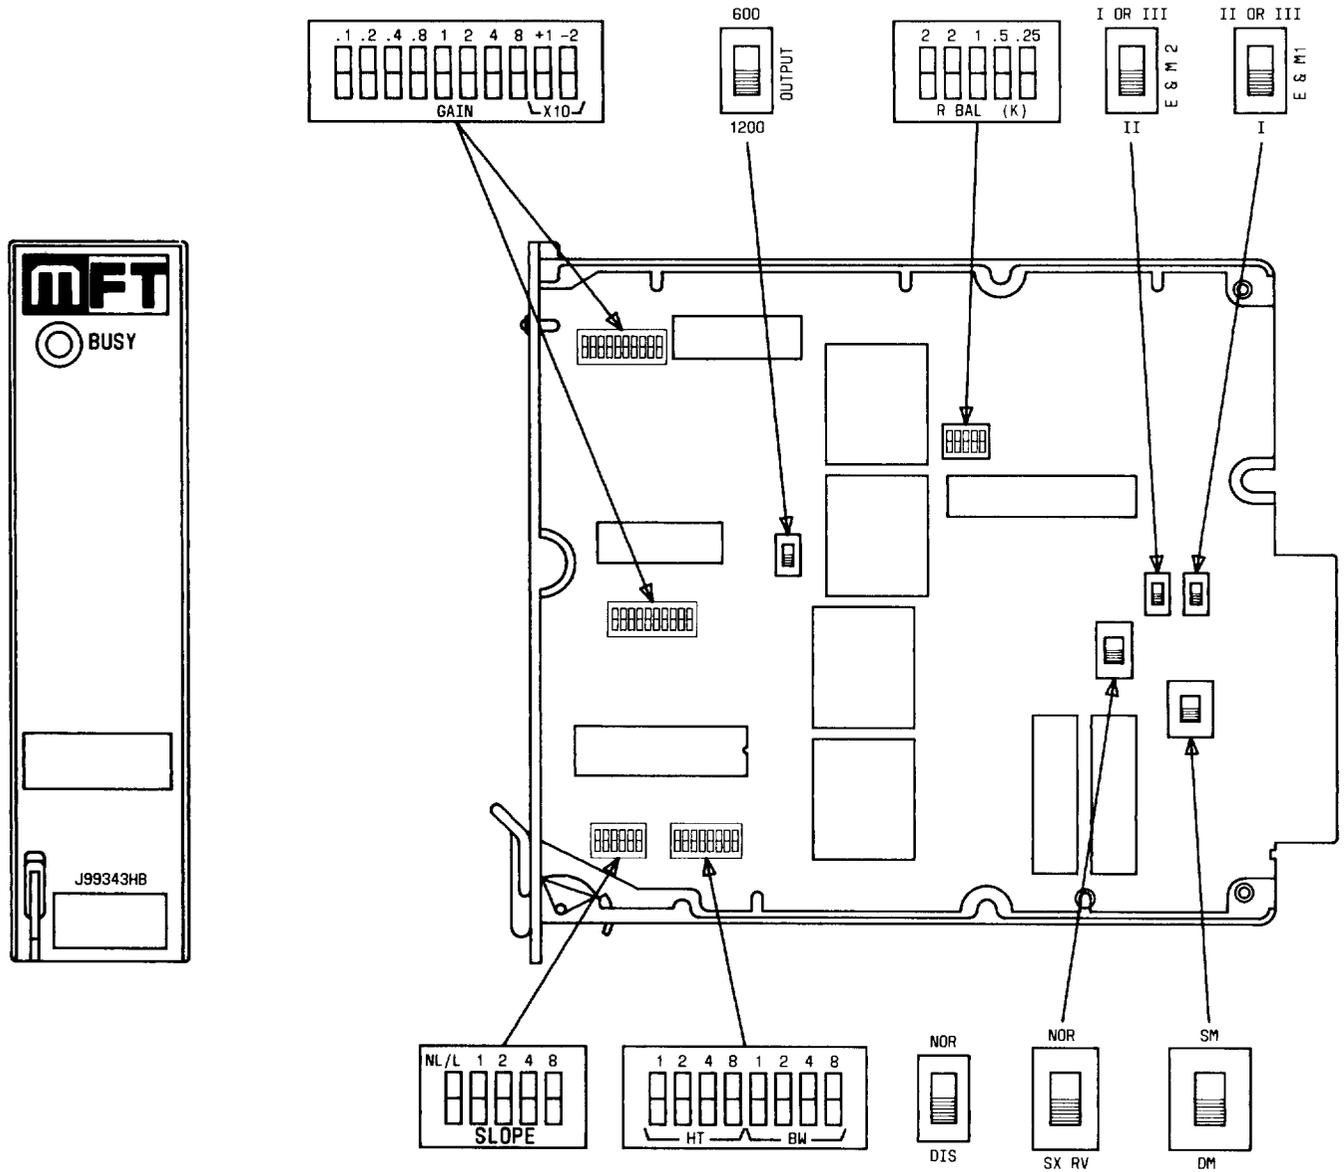
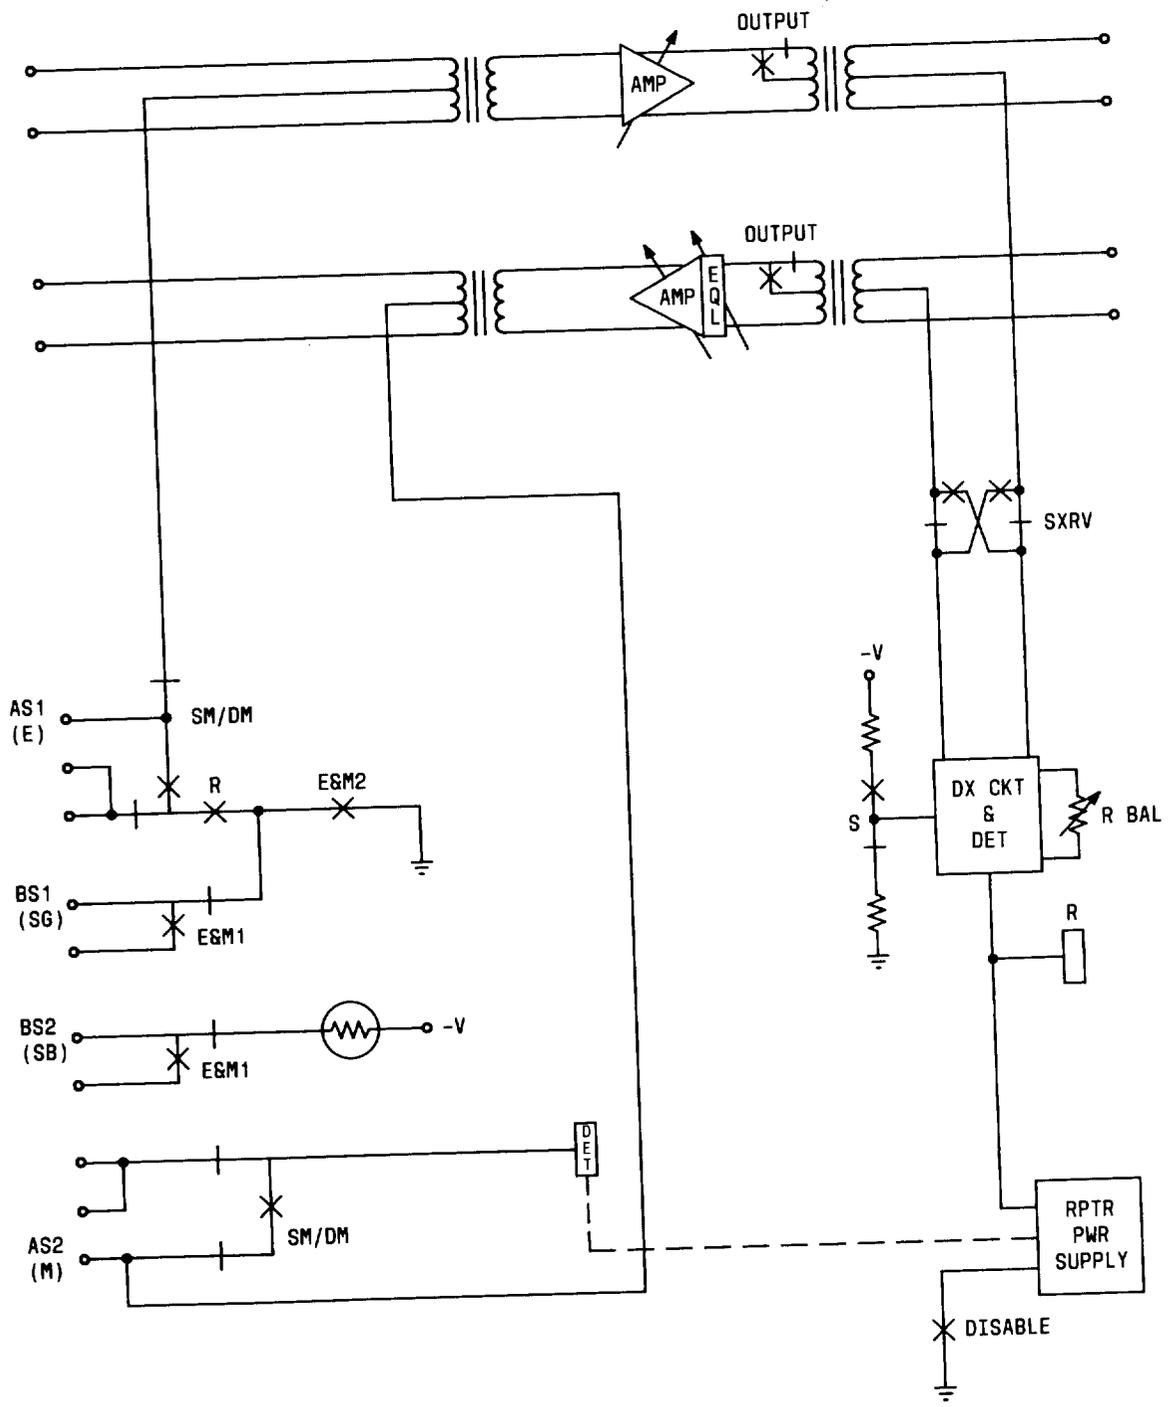

Fig. 6—Component Layout—J99343HB
Fig. 7 — Block Diagram — J99343HB
3.01 The J99343HB is shown in Fig. 6. It provides gain, equalization, and E&M to DX1 signaling on 4-wire circuits. Figure 7 shows a block diagram of the unit.
3.07 The rocker-type switches for a particular function, which are described in the following paragraphs, are operated when depressed toward the respective designation. The sum of the values of the switches operated is the setting for that function. The unit controls are illustrated in Fig. 6.